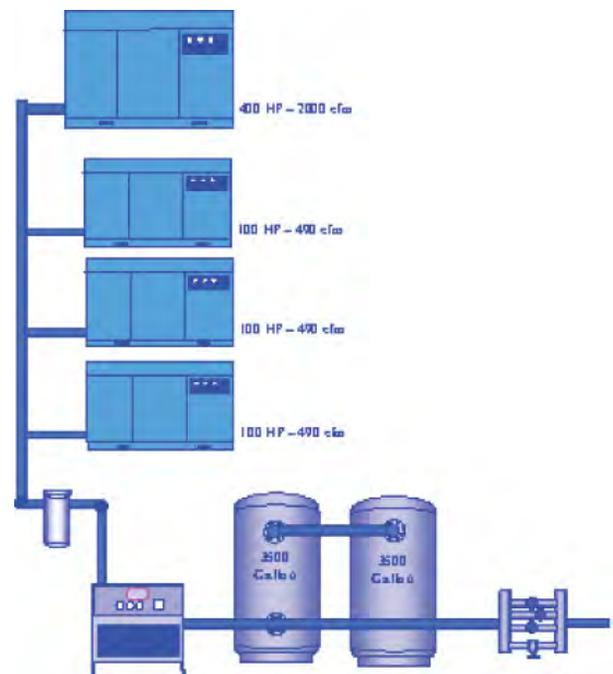

Figure 1
**Note:** The piping in Figure 1: